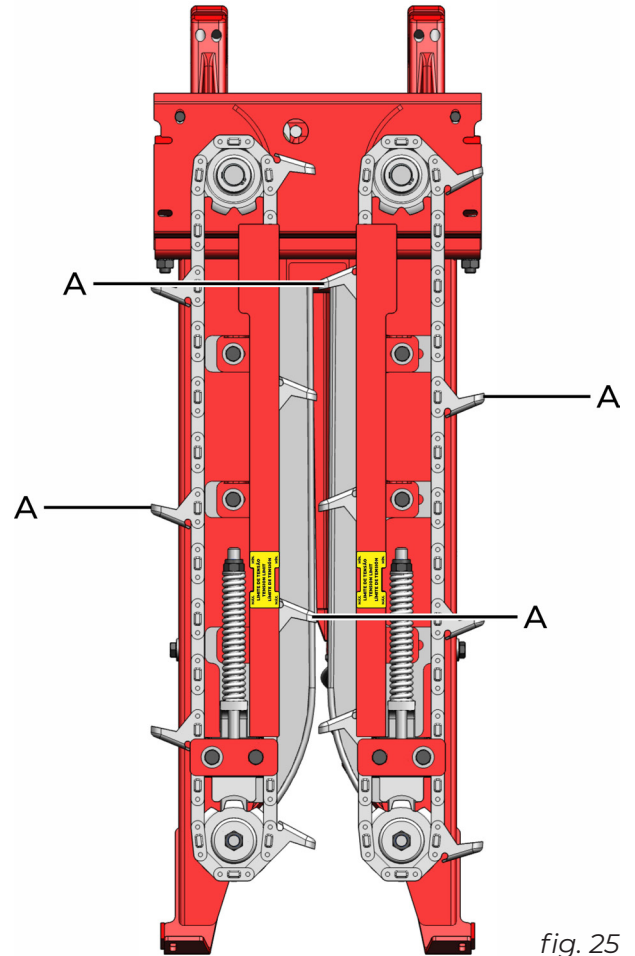

fig. 25
Gathering chains are factory-assembled with the drag conveyors (A) (fig. 25) interspersed with each other and should be kept this way.